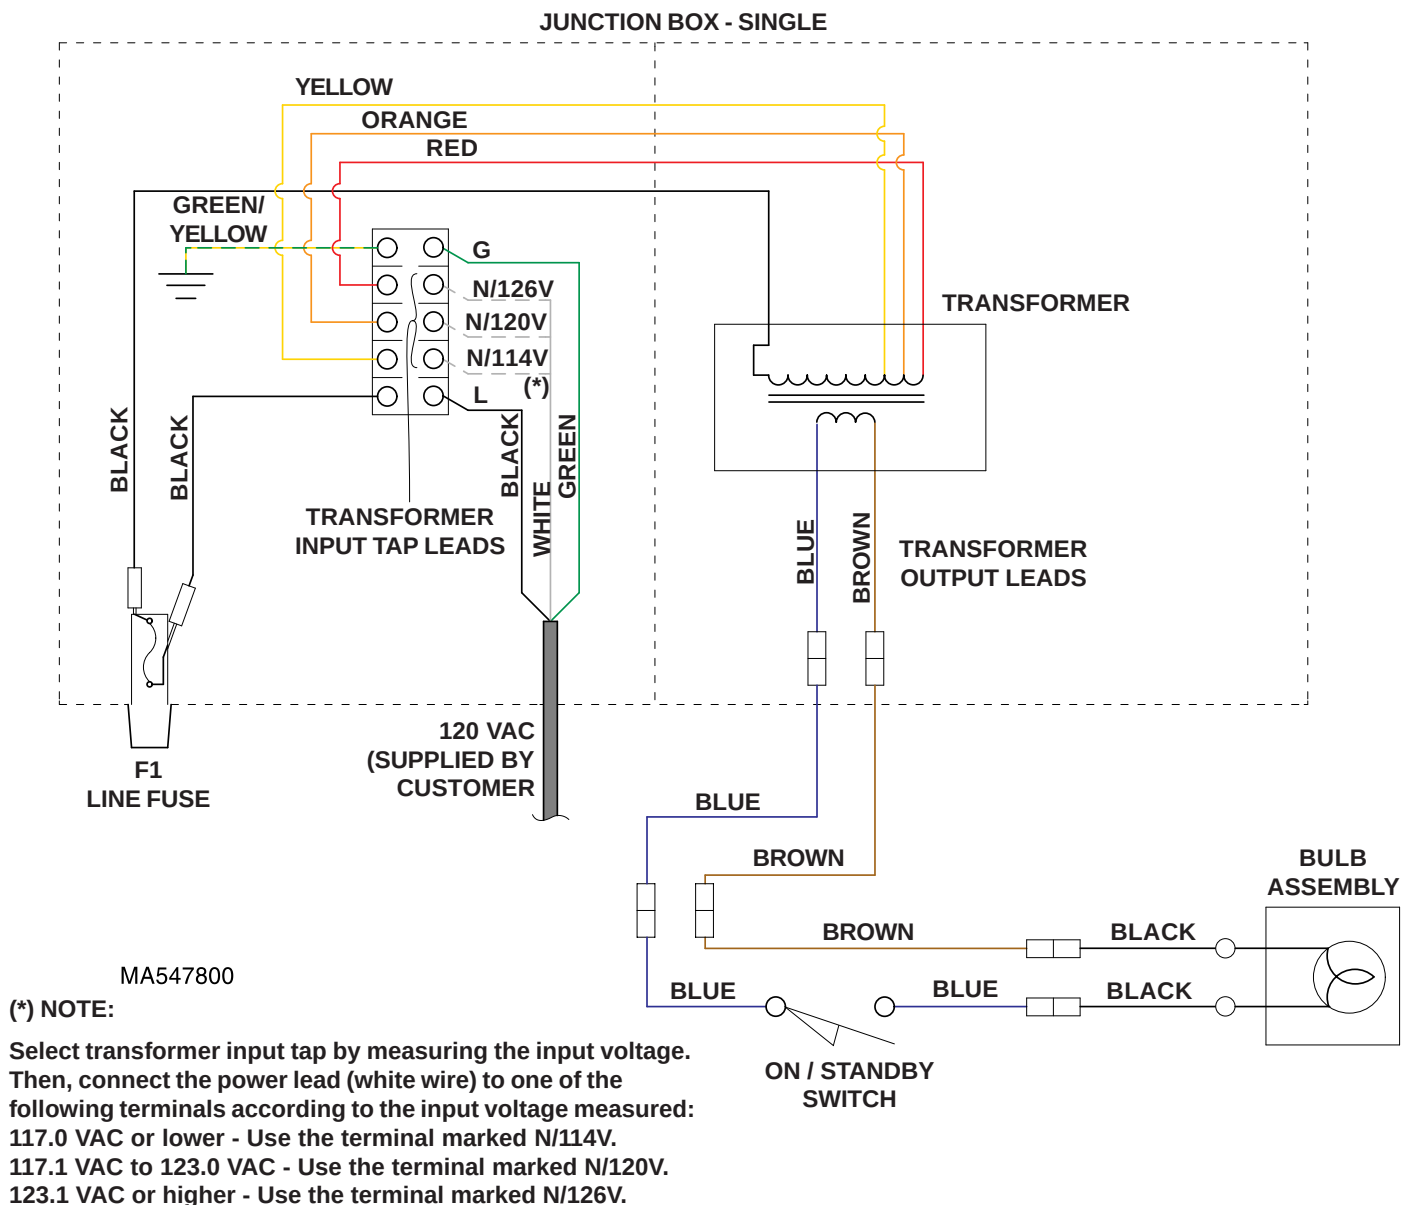

Figure 5. Wiring Diagram (Sheet 1 of 2). Single units
8. If voltage measured in step 6 was 117.0 VAC or lower, connect the white neutral lead of customer supplied wiring to the terminal marked **N/114V** for single units **or N1/114V** or **N2/114V** for double units (see Figure 5).
If voltage measured in step 6 was between 117.1 to 123.0 VAC, connect the white neutral lead of customer supplied wiring to the terminal marked **N/120V** for single units **or N1/120V** or **N2/120V** for double units (see Figure 5).
If voltage measured in step 6 was 123.1 VAC or higher, connect the white neutral lead of customer supplied wiring to the terminal marked **N/126V** for single units **or N1/126V** or **N2/126V** for double units (see Figure 5).